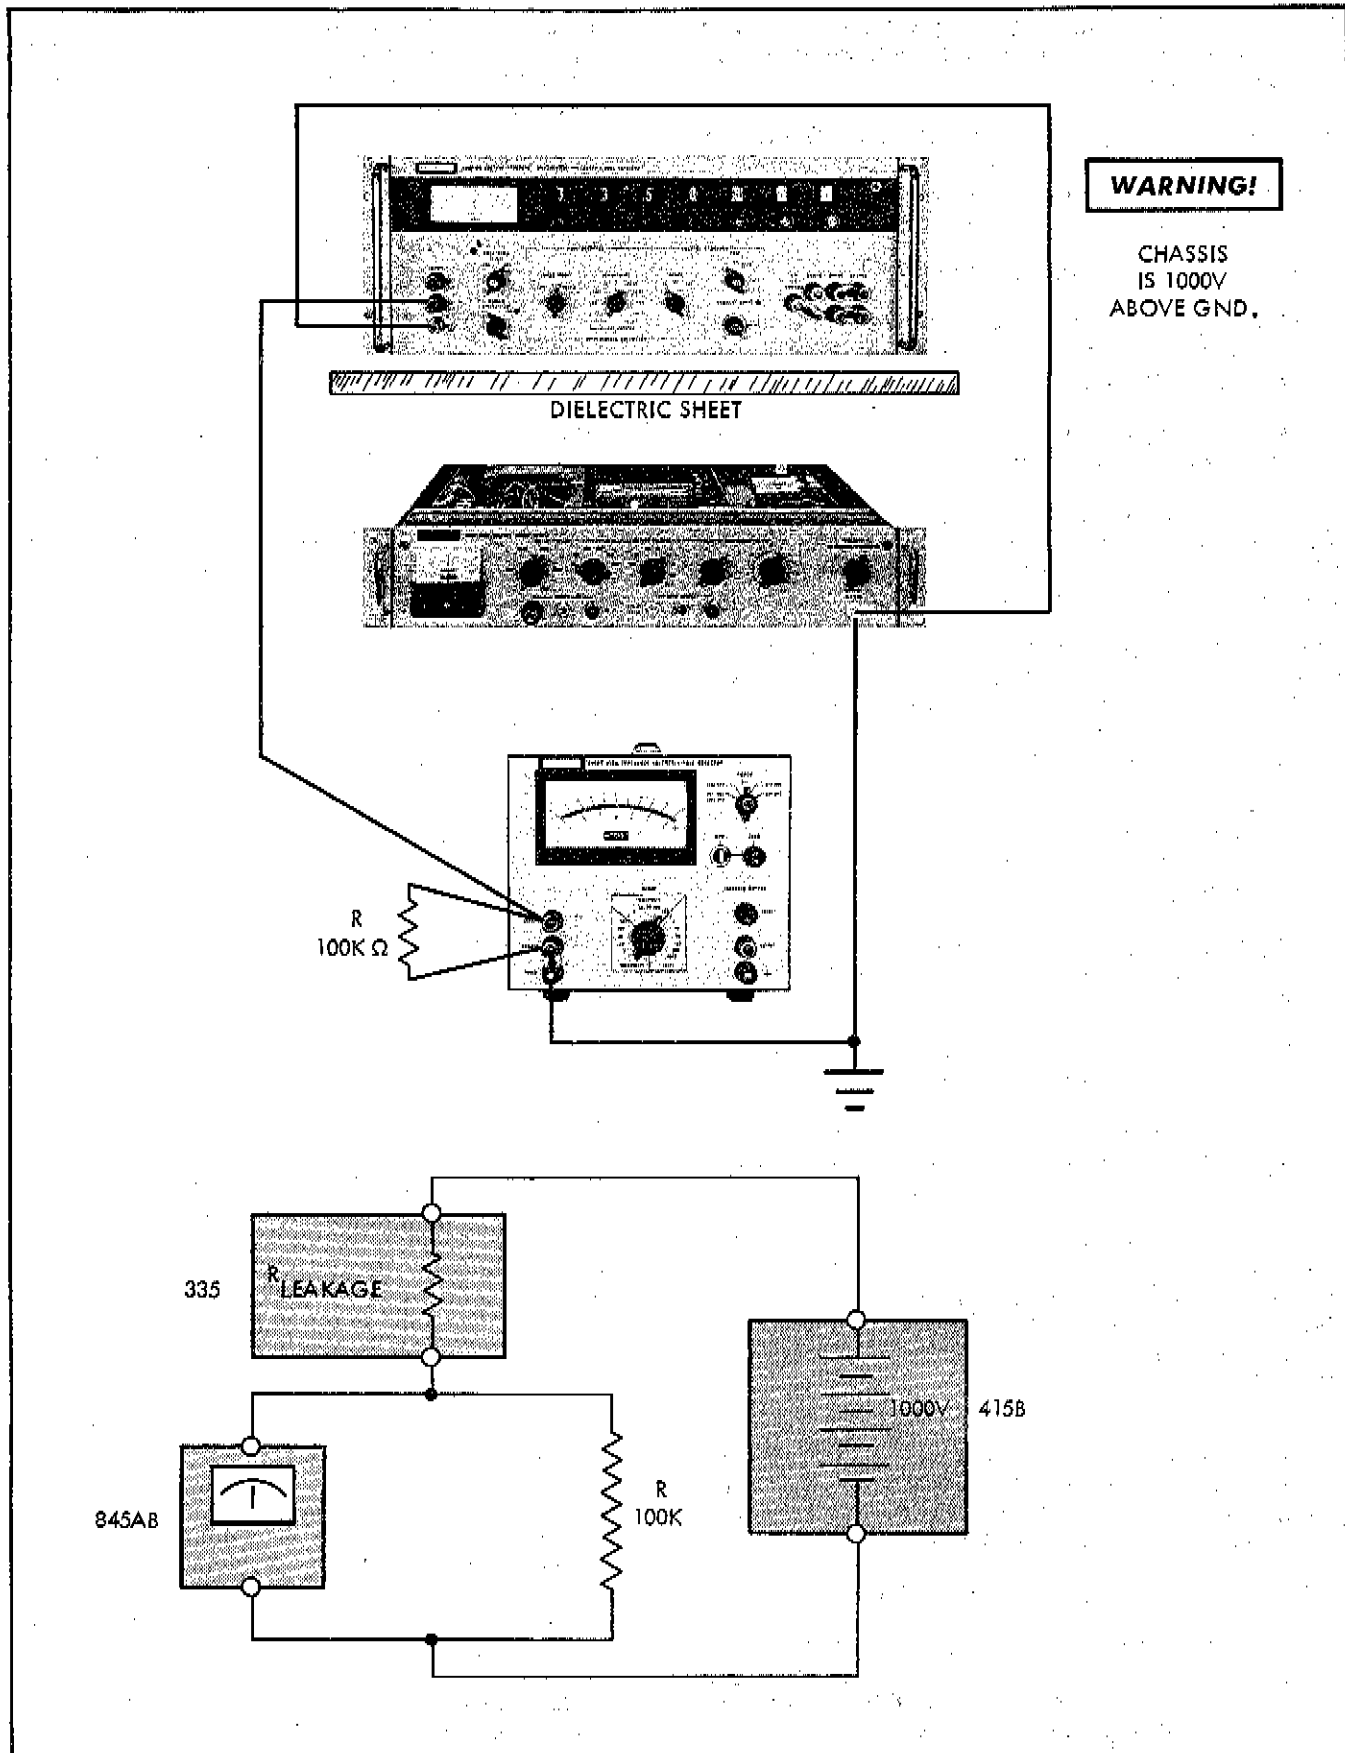

Figure 4-7. LEAKAGE RESISTANCE TEST CONNECTIONS
- Disconnect the Model 335A, 335D from the power line and connect to the Models 415B and 845AB, as illustrated in Figure 4-7, with teflon coated leads.